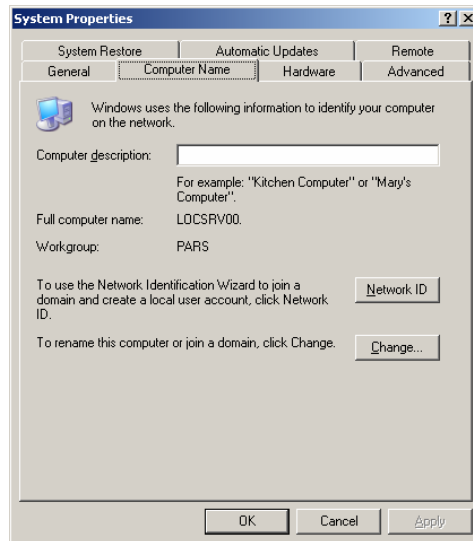

Figure 1-122. Properties, Computer Name tab
2. Click on **Properties**. The "System Properties" popup is displayed. Click on the **Computer Name** tab (Figure 1-122).